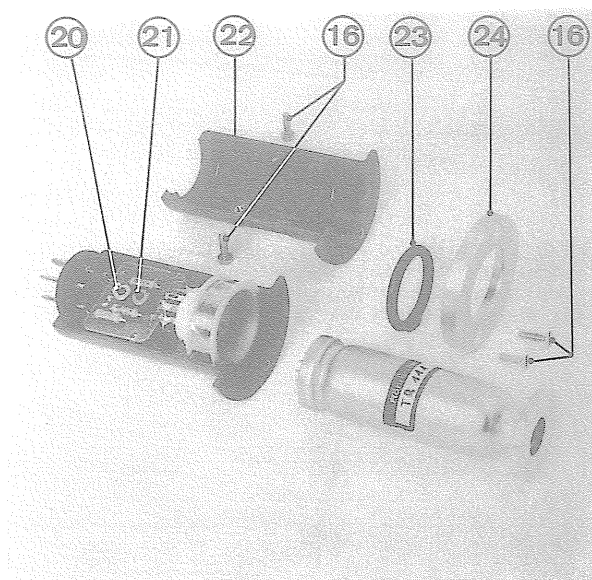

Fig. 4
- 22 Shell casing with name plate affixed to exterior (name plate not visible in Fig. 4)